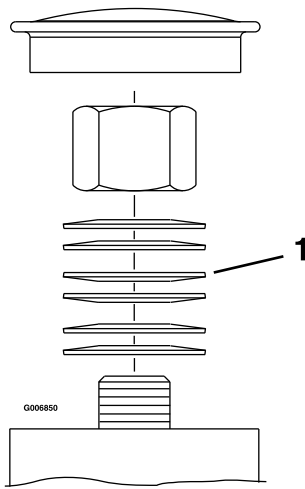

Figure 55
3. Remove the dust cap from the caster and tighten the locknut until the spring washers are flat, then back off 1/4 turn to properly set the pre-load on the bearings (Figure 54 and Figure 55).
Important: Make sure that the spring washers are installed correctly as shown in Figure 54 and Figure 55.